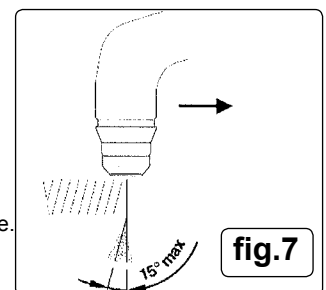

fig.7
- 6.2.5. Check the underside of the cut. The arc should make a 5 - 10° angle with the vertical in the opposite direction to the cutting direction (fig.7).